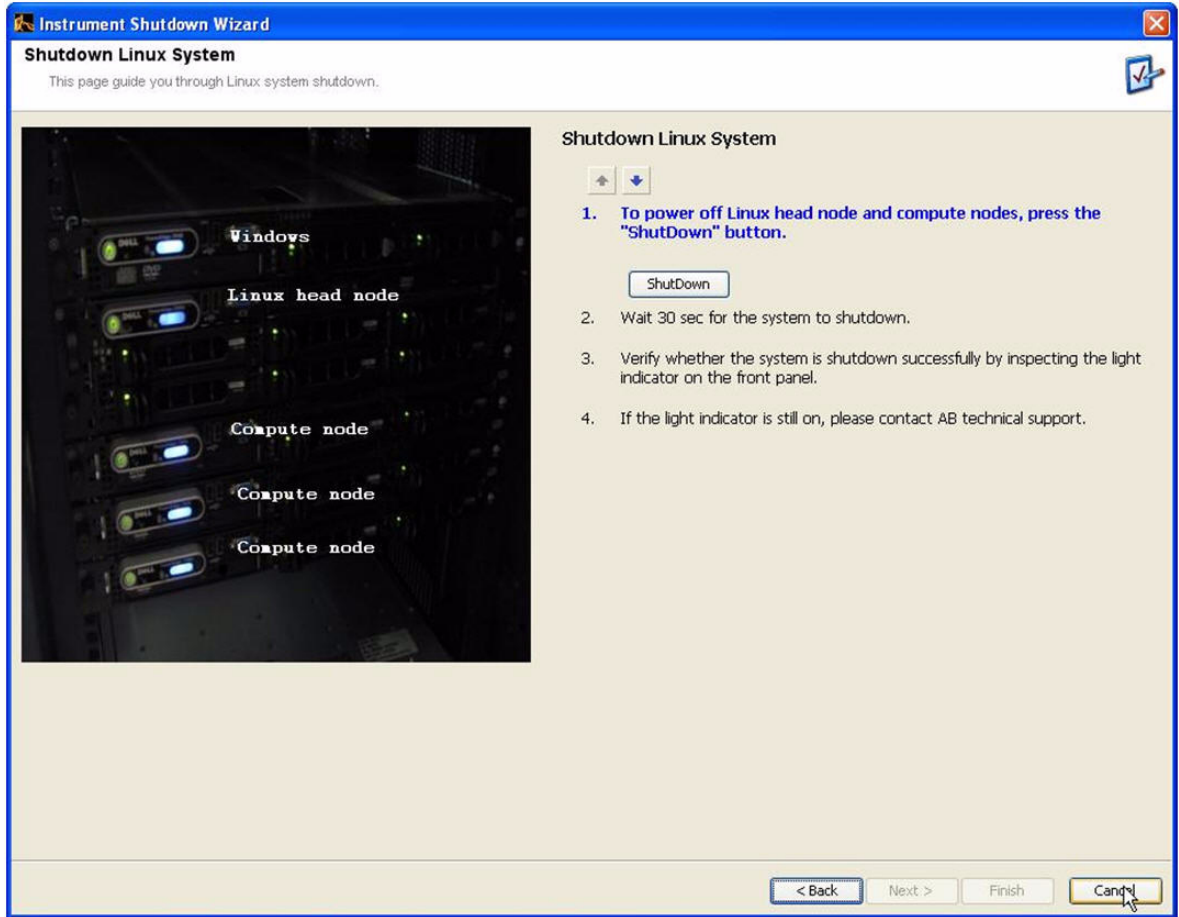

Figure 69 Click Cancel if performing regular maintenance or ShutDown to power off the instrument.
- SOLiD™ 4 Analyzer in continuous use:** If the SOLiD™ 4 Analyzer is *in continuous use* and you are performing this flush every three months as required for preventive maintenance, click **Cancel** (Figure 69). Do not shut down the power to the Linux head node and compute nodes.
- SOLiD™ 4 Analyzer idle for more than two weeks:** If the SOLiD™ 4 Analyzer *will not be used for more than two weeks*, click **ShutDown** (Figure 69). Close down the SOLiD™ Instrument Control Software and power off the instrument.